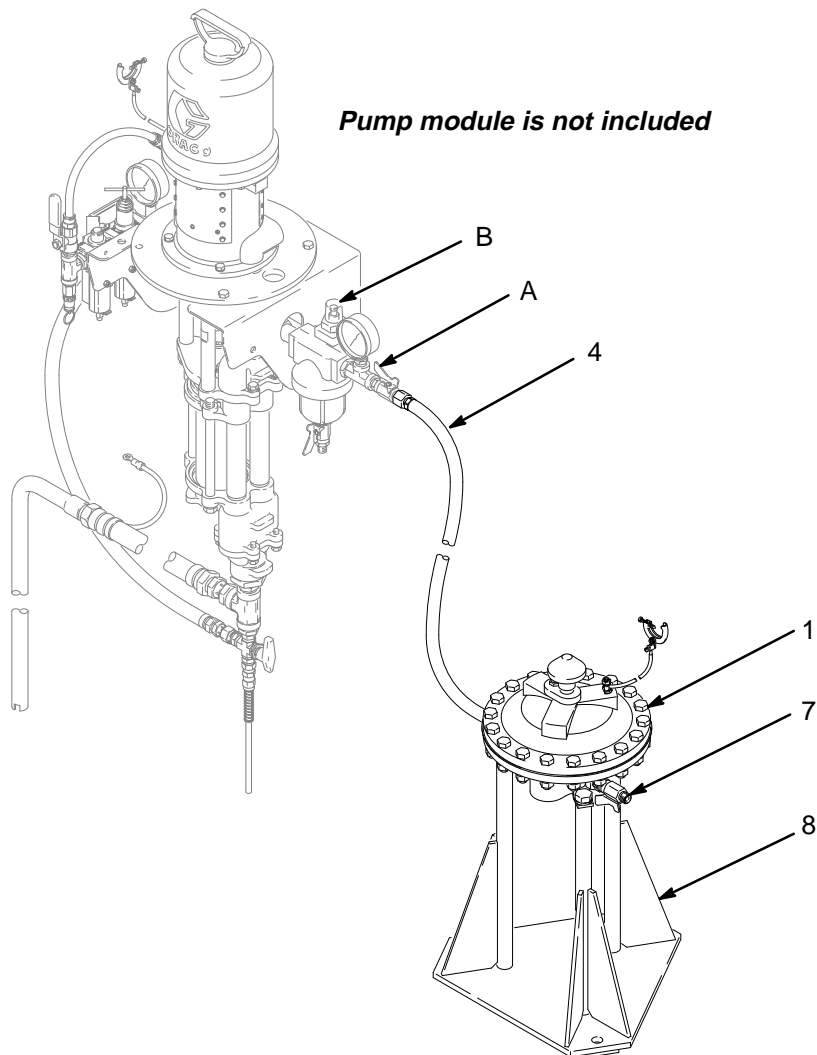

Fig. 1
Position the surge tank module so the fluid inlet hose (4) will easily reach the fitting (A) at the outlet of the fluid filter (B). See Fig. 1.